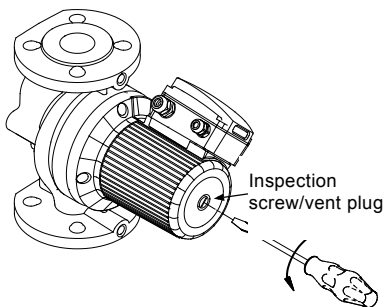

Fig. 12 Removing the vent plug
**If the vent screw is to be loosened, care should be taken to ensure that the escaping scalding hot liquid does not cause personal injury or damage to components (see fig. 12).**
3. Insert a small, flat-blade screwdriver into the slot in the end of the motor shaft (see fig. 12). Rotate the shaft with the screwdriver to make sure it does so freely.